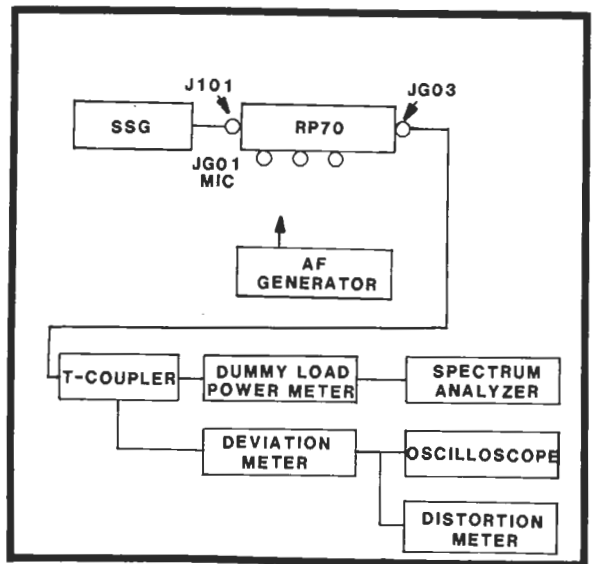

FIGURE 10. MODULATION TEST SETUP
1. Connect the test equipment as shown in Figure 10.